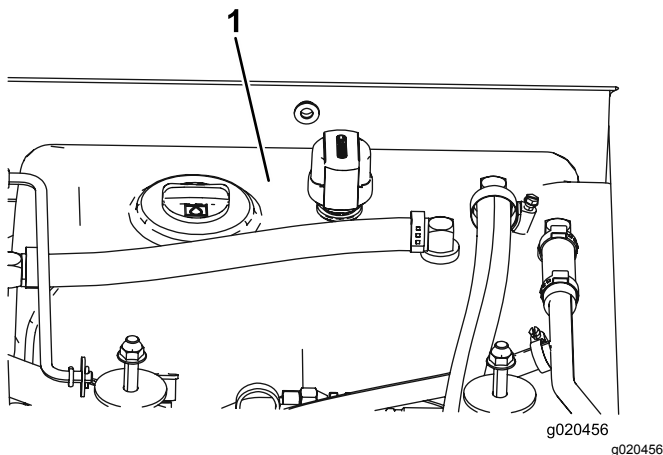

Figure 99
3. Fill the reservoir (Figure 99) with hydraulic fluid; refer to Checking the Hydraulic Fluid.